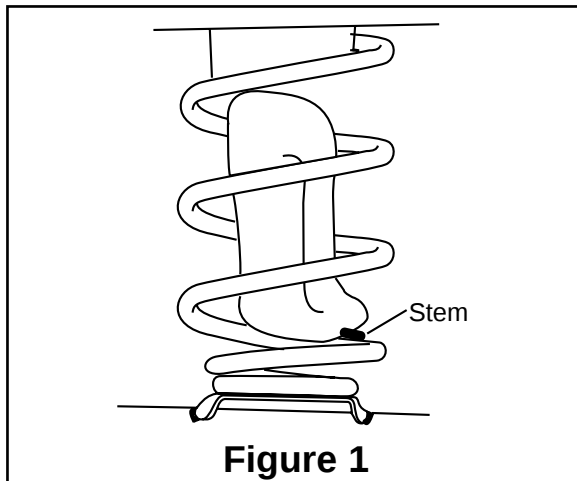

Figure 1
5. Insert flattened air cylinder into coil spring through lowest opening with stem at the bottom (Figure 1).